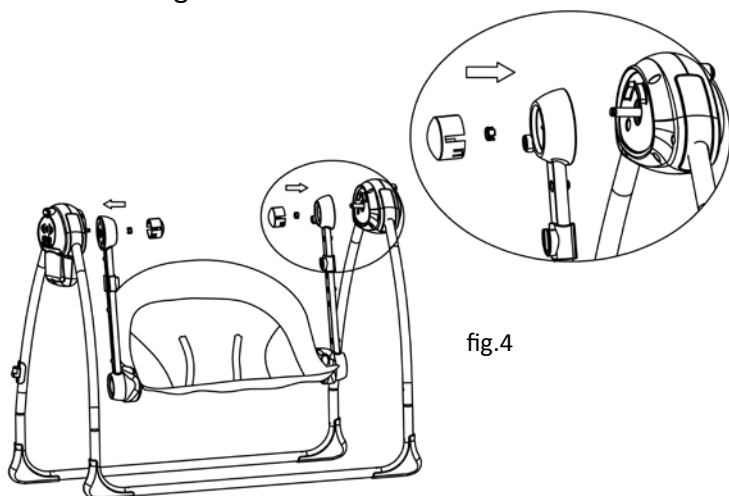

fig.4
4. Assemble seat pad as shown below. Insert clip into the metal axis as show as below, (Note: round head match round hole, half-round head match half-round hole). Make sure it click into the right slot to secure the seat frame as fig.4.